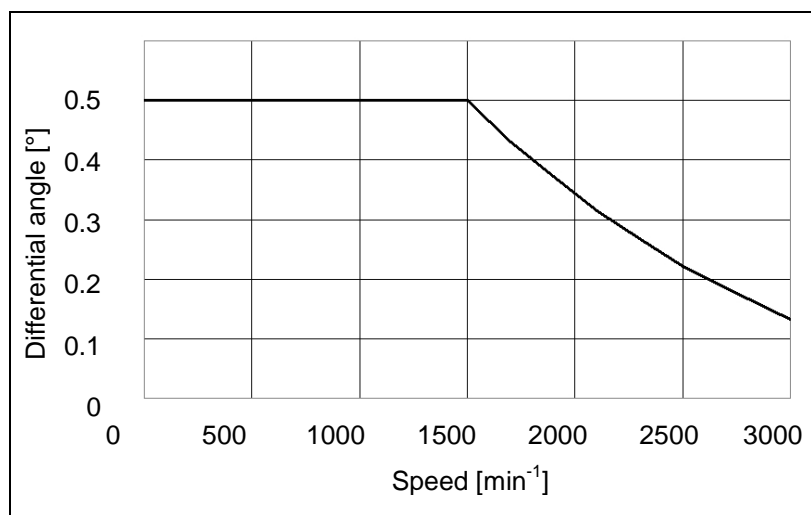

Fig. 6.5: Permissible differential angle (with Z arrangement)
> 1500	→ Fig. 6.5, page 46
- ⇒ During assembly of the universal joint shaft, make sure that the zero markings (N) are on a single plane (→ Fig. 6.5, page 44).